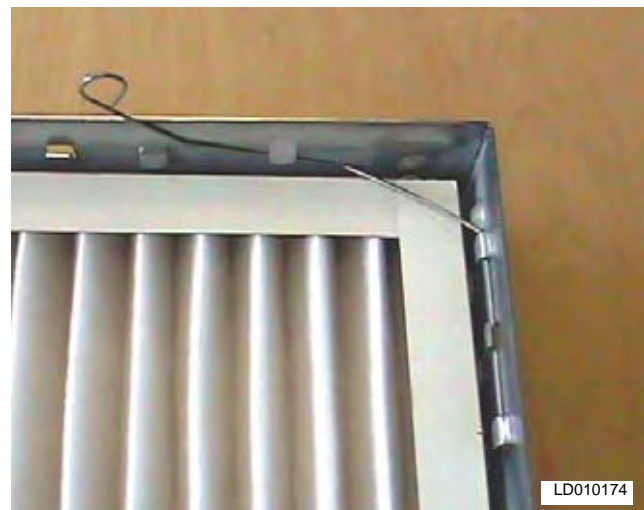

FIG. 4-22 – FULLY INSTALLED FILTER
6. The filter should now be securely installed into the frame (see Fig 4-22).